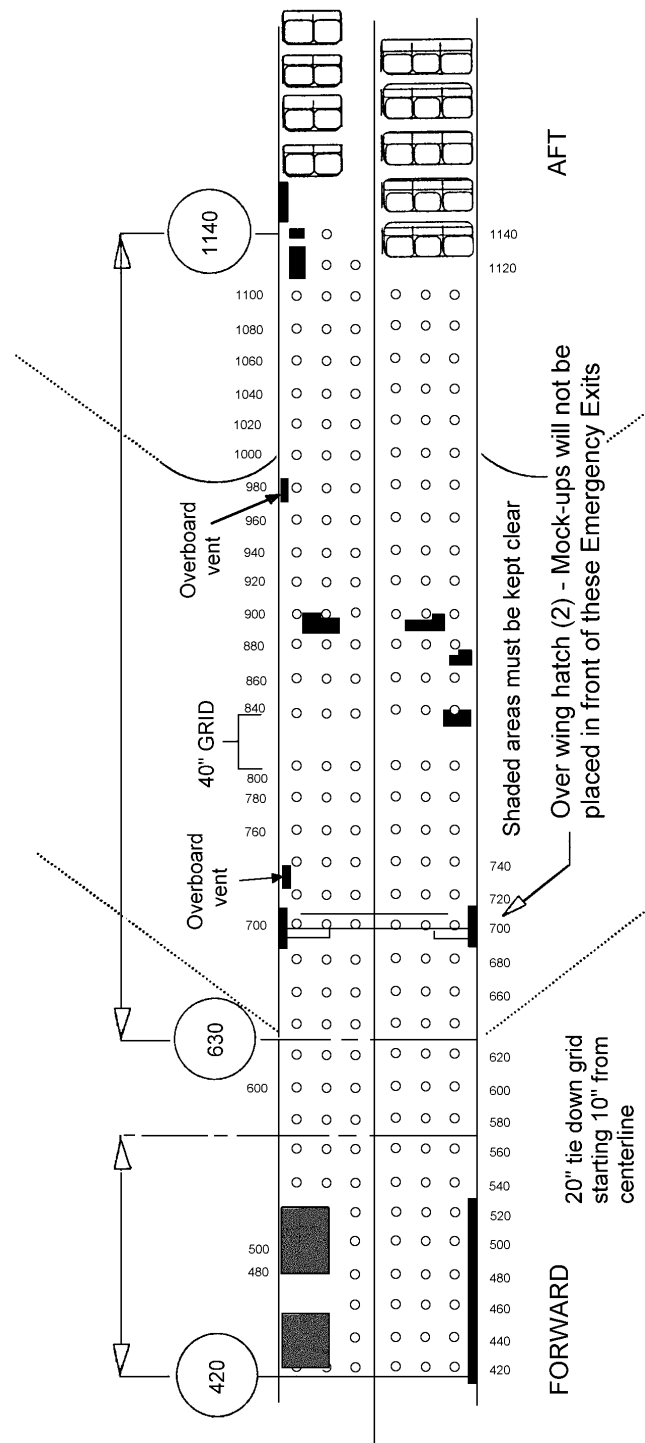

Figure 1 - Floor Grid Pattern
6.3.1.2 Cabin Dimensions (See Figures 1 and 2)